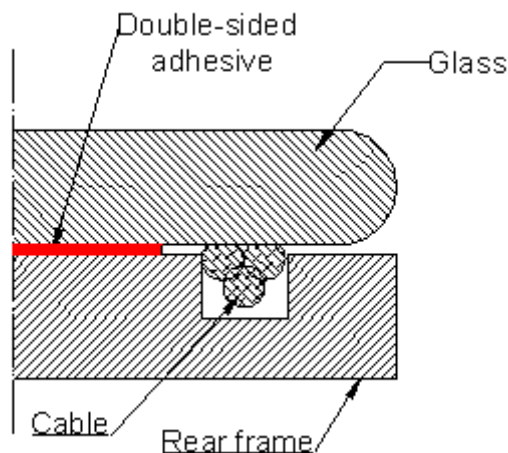

FIG.7 One structure of rear frame 一种后框结构
2.2 For the rear frame with the structure showed in the FIG.7 below, please tear off the PET cover, clean the original narrow double-sided adhesive tapes by alcohol carefully and then straightly and tightly stick the double-sided adhesive tapes onto the background area and keep a 1mm distance from the inner edges of background area.